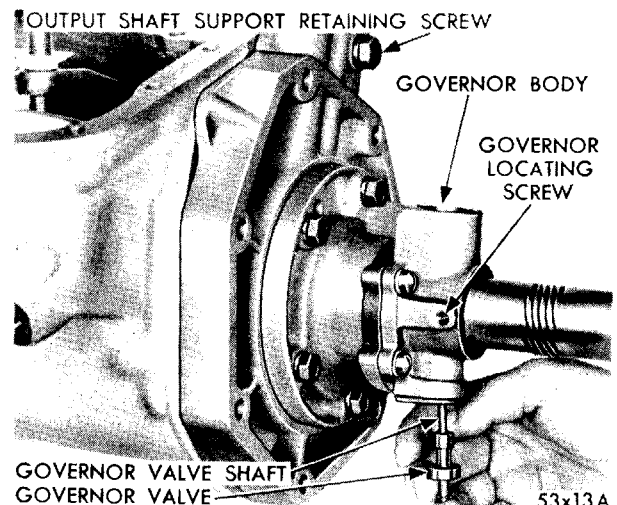
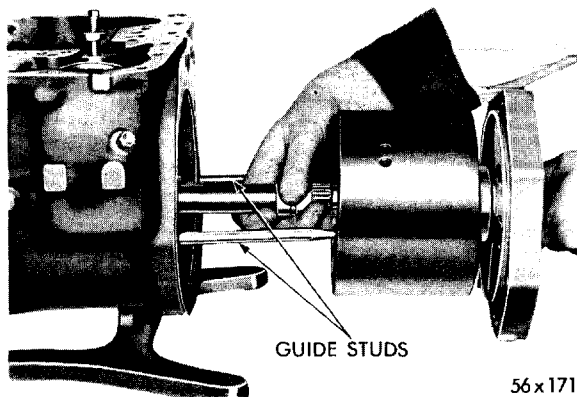

Fig. 13—Removal and Installation of Governor Valve and Shaft
Fig. 19—Removing Output Shaft, Carrier Housing and Input Shaft Assemblies
(1) Loosen governor body to support screws to aid in removal of governor assembly.
(2) Using a sharp instrument, such as an ice pick, remove the governor valve shaft snap ring (weight end) and remove the governor valve shaft and valve from governor valve body assembly (Figure 13).
(1) Remove output shaft support to transmission case screw and washer (Figure 13). Loosen reverse band adjusting screw and locknut to release any tension of reverse band on carrier housing. Grasping output shaft in both hands, carefully work shaft, planet pinion carrier assemblies, housing and support, out of transmission case, as shown in Figure 19. If support is stuck to transmission case and cannot be removed as described, lightly tap support with a soft hammer.
(2) Remove the large (tabbed) kickdown planet pinion carrier thrust washer from direct clutch piston